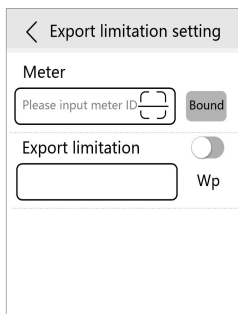

Figure 3-12
- ① Export limitation function is off by default.
- ② Select “1” to turn on the Export limitation. Select “0” to turn off the function.
- ③ Press “▲” / “▼” to change the value of “P-Limit”, after a certain value settled, press “ENT” to move the cursor point to the last number, press “ENT” again then the settings complete.
- ① Login APP and connect the module WiFi.
- ② Enter “Remote control” interface to select “Mode setting” → turn on the “Export limitation” (it is off by default) as showed in Figure 3-12.